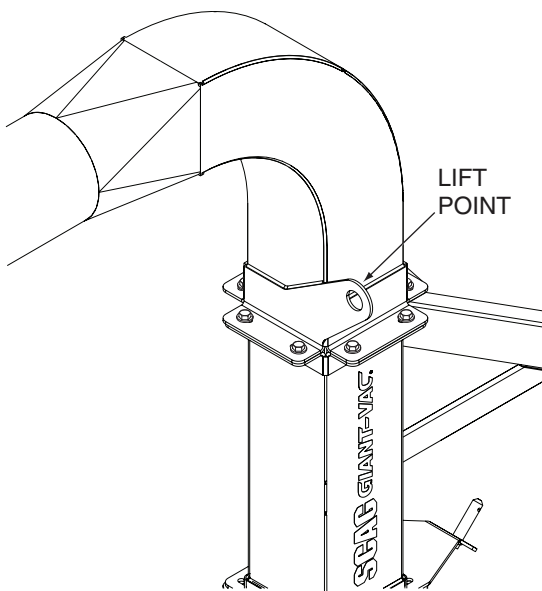

Figure 4-5. Lift Support Bracket
2. With help from an assistant and lifting device, lift the truck loader using the lift support bracket. See Figure 4-5.
- With help from an assistant and lifting device, lift the truck loader using the lift support bracket and remove from the transport vehicle. See Figure 4-5.